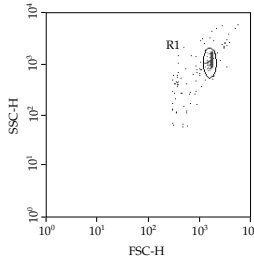

Figure 3a
Adjust gate R1 so that the singlet bead population is located in gate R1 (*Figure 3a*).
6. In setup mode, run tube No. 1 and using the FSC vs. SSC dot plot, place the R1 region gate around the singlet bead population (see *Figure 3a*).